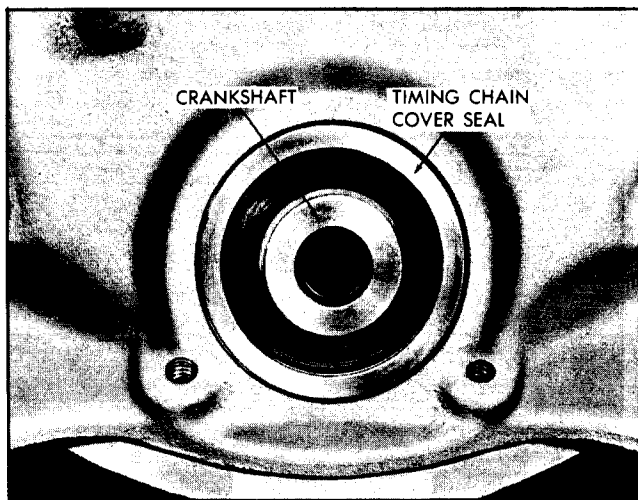

Fig. 6-125 Timing Chain Cover Seal
4. Remove timing chain cover seal by prying out of bore with a pry bar (Fig. 6-125).